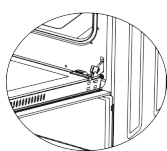

Figure 2.2
3. Next, carry out the unlocking operation by lighting the small hooks using a screwdriver (Figure 2.2).